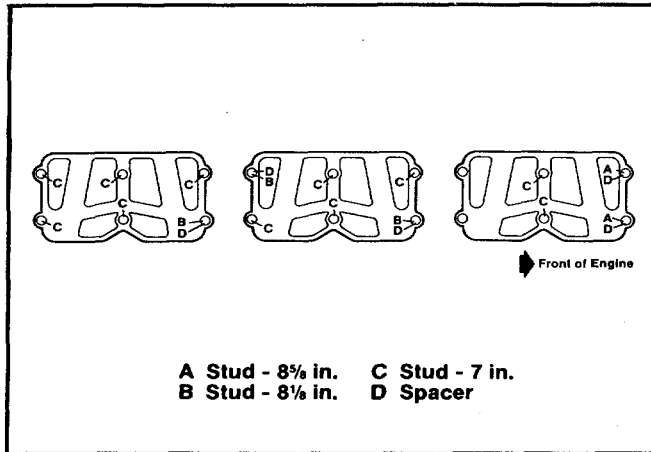

Fig. 20-4. Locations For The Stud And Spacer In The Rocker Lever Housings.
17. Install the Jacobs Brake units onto the rocker lever housings. Install the spacers and nuts onto the studs. See Fig. 20-4 to find the correct locations for the spacers.